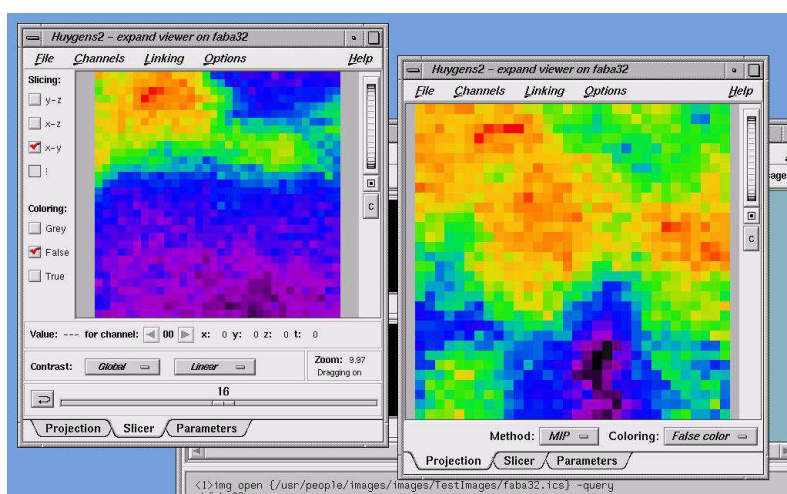

Figure 3. Two Expand Viewers opened from the same image. Left the Slicer Tab is selected, right the Projection Tab.
- Verify the microscopic parameters (needed for the generation of a PSF) like Numerical Aperture, Microscope type, sample size, etc. by selecting the Parameters Tab from the Expand viewer (see Figure 3).